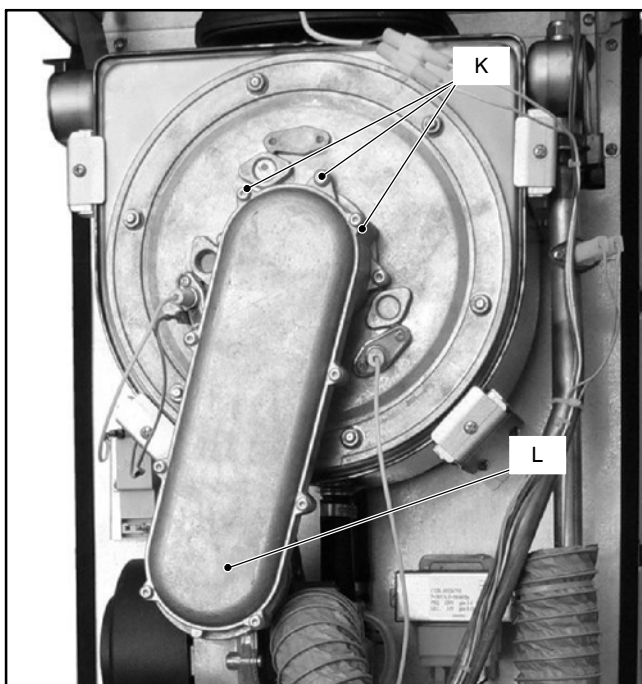

Fig. 17.5
- 9 Unscrew the screws *K* (Fig. 17.5).